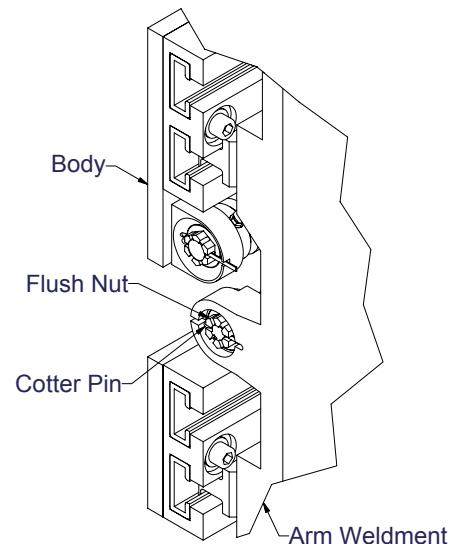

Figure 4-3, Arm
1. Extend the arms outside of the body. Remove the cotter pin retaining the flush nut. Remove the flush nut. (Figure 4-3)